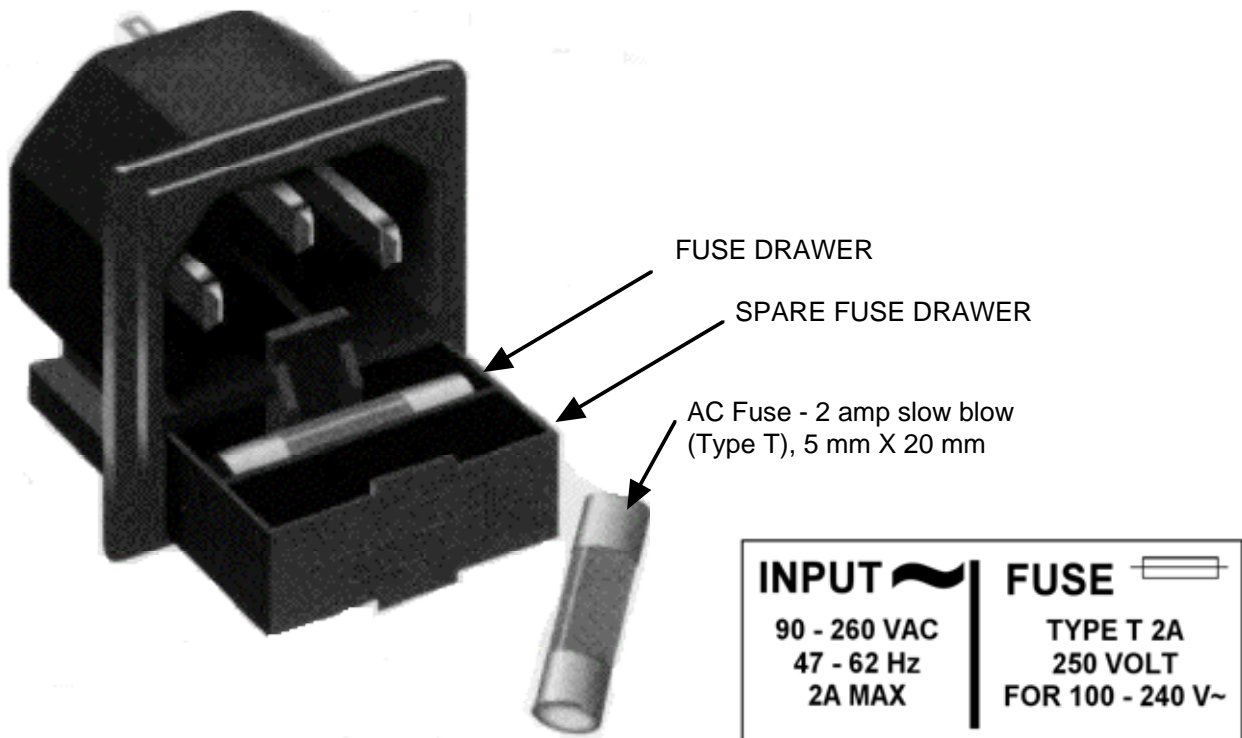

FIGURE 2.4 Fuse Location and Spare Fuse
9. AC Fuse - The fuse is a 5 mm X 20 mm, 2 amp slow blow (Type T) and is inserted in the far slot in the drawer below the AC input as shown in Figure 2.4. There is a spare fuse in the near slot. If a fuse continues to open, the power supply is most likely defective.